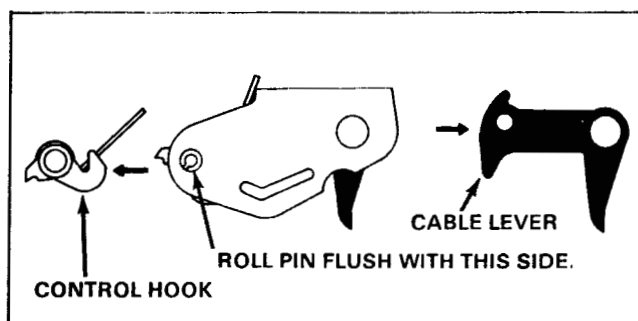

Figure 82
5. Position the control hook and torsion spring in the rocker arm as shown in Figure 82. Secure with the roll pin making sure that the roll pin is flush with the side indicated in the Figure. Also